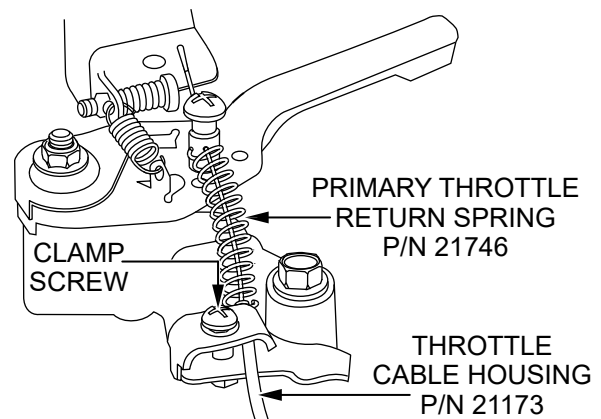

Figure 7. Install Throttle Cable To Engine
- Install the **throttle cable** (P/N 21172) into the **throttle cable housing** (P/N 21173). Start by feeding the throttle cable through the handle-grip end of the housing. Once the cable is showing at both ends of the housing, thread the **primary throttle return spring** (P/N 21746) over the cable at the engine throttle control end as shown in Figure 7.
- Install the end of the **throttle cable housing** (with the throttle cable inside) into the engine throttle control assembly as shown in Figure 7. Tighten the **clamp screw** to hold the cable housing in place.